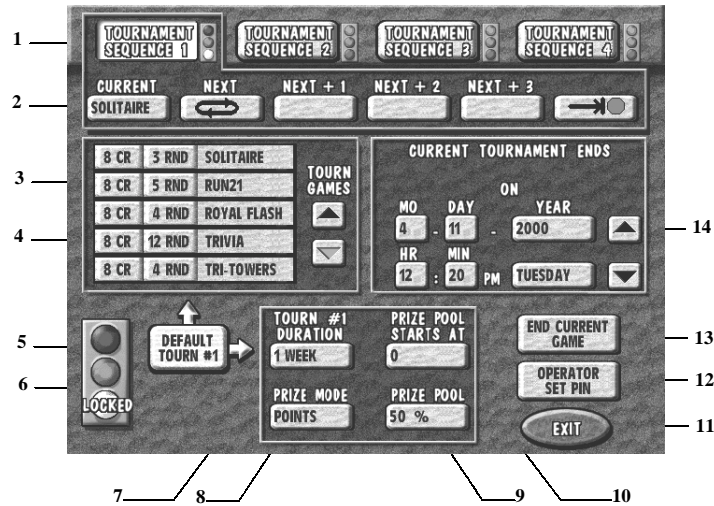

FIGURE 7 - TOURNAMENT SETUP SCREEN
5. Touch the "Next Page" icon to enter the Tournament Setup Screen (see Figure 7).